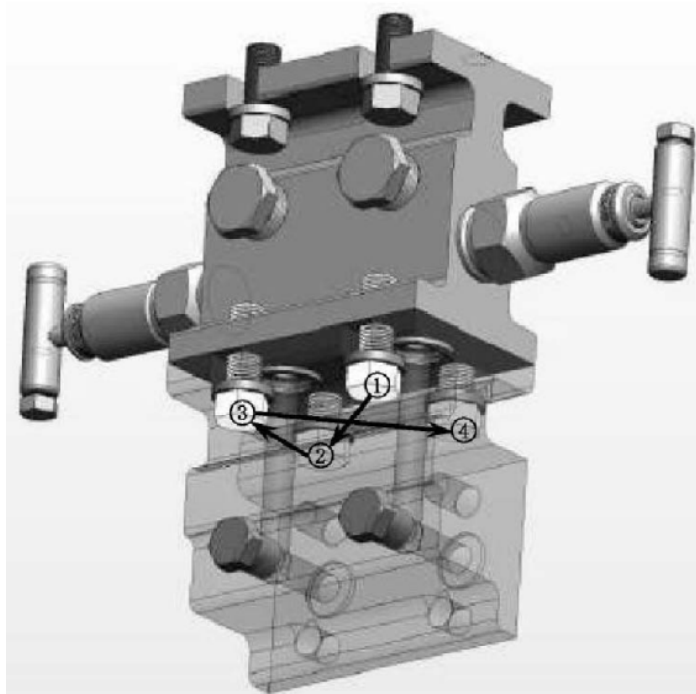

Figure 6
- 3.1.3 Torque the bolts to an initial torque value of 12 to 15 ft.-lbs. using a crossing pattern (Figure 6).
- 3.2.2 Torque the bolts to an initial torque value of 12 ft.-lbs. using a crossing pattern (Figure 6).
- 3.3.1 Torque the bolts to the 30 ft.-lbs. maximum, using a crossing pattern (Figure 6).
- 3.4.1 Torque the bolts to the 25 ft.-lbs. maximum, using a crossing pattern (Figure 6).
- 3.5.2 Torque the bolts to an initial torque value of 25 to 15 ft.-lbs. using a crossing pattern (Figure 6).
- 3.6.2 Torque the bolts to an initial torque value of 25 ft.-lbs. using a crossing pattern (Figure 6).
- 3.7.1 Torque the bolts to the 50 ft.-lbs. maximum, using a crossing pattern (Figure 6).
- 3.8.1 Torque the bolts to the 45 ft.-lbs. maximum, using a crossing pattern (Figure 6).